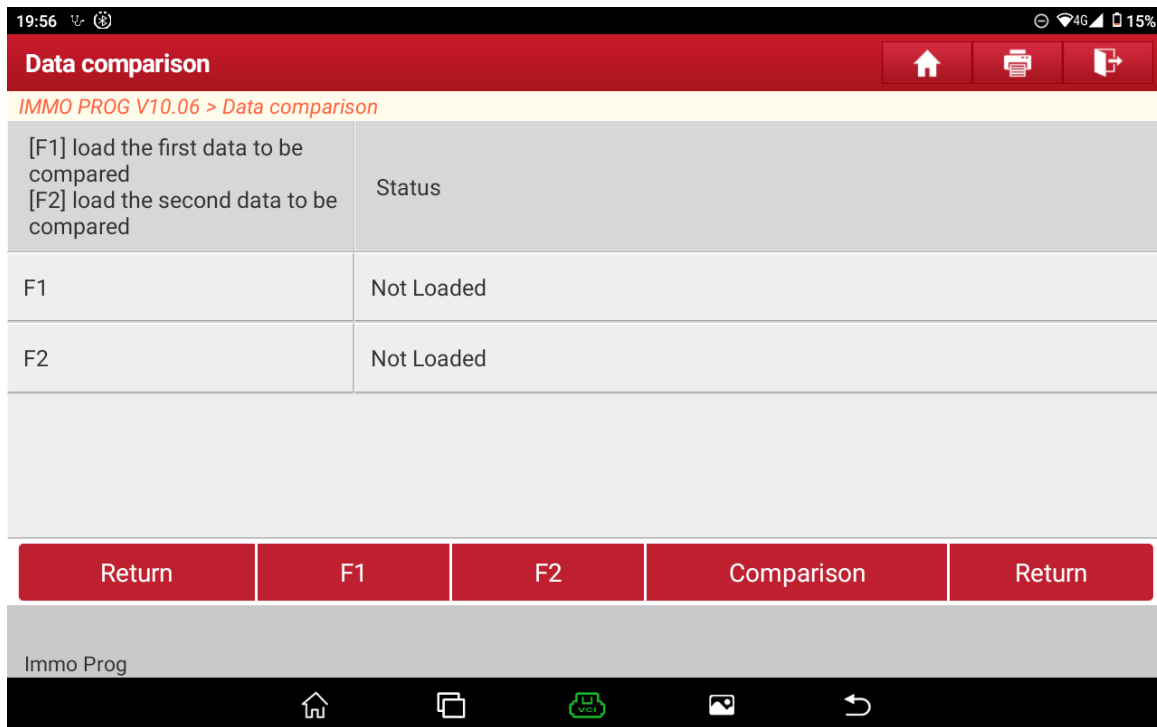

Figure 18
12. Click **【Data Comparison】** and enter the data comparison interface, as shown in Figure 18;